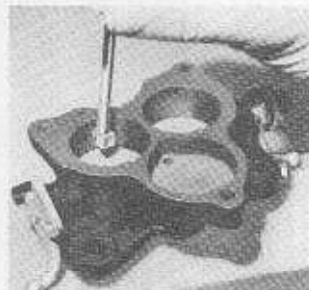

Fig. 26
**31** Hold throttle closed and gauge distance from throttle plates to the idle feed holes nearest plate. Use #9518-A gauge as shown in Fig. 26. Discard throttle body and plate assembly if distance is not within gauge limits as poor idling and low speed operation will likely be encountered otherwise.